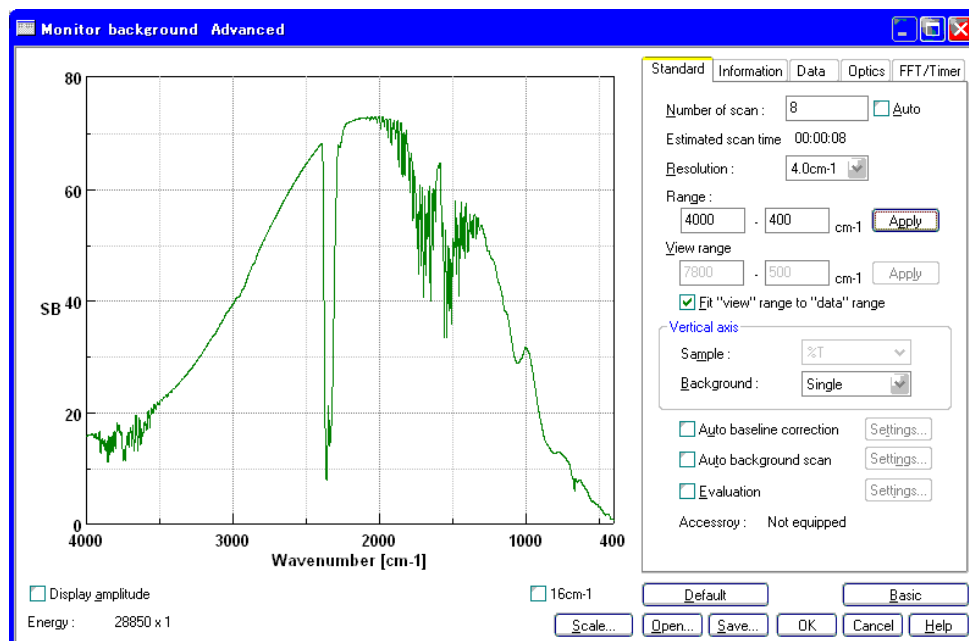

Fig.2.20 [Monitor Background] dialog
- (1) Confirm that the sample chamber is empty, then choose [Monitor Background] from the [Measure] menu of the Spectra Measurement program. The [Monitor Background] window is displayed. (Fig. 2.20)